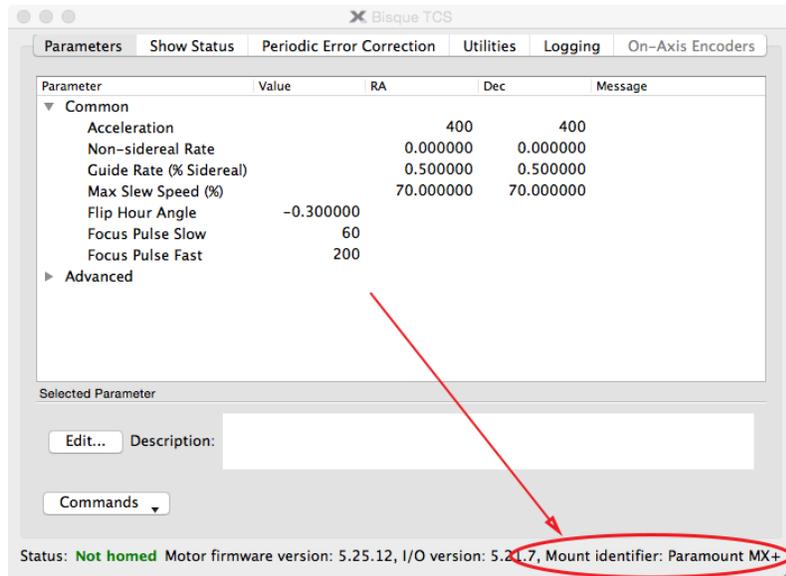

Figure 10: Mount Identifier on the Bisque TCS window.
3. Verify the Mount Identifier in the lower right of the Bisque TCS window (Figure 10) is set for a Paramount ME.